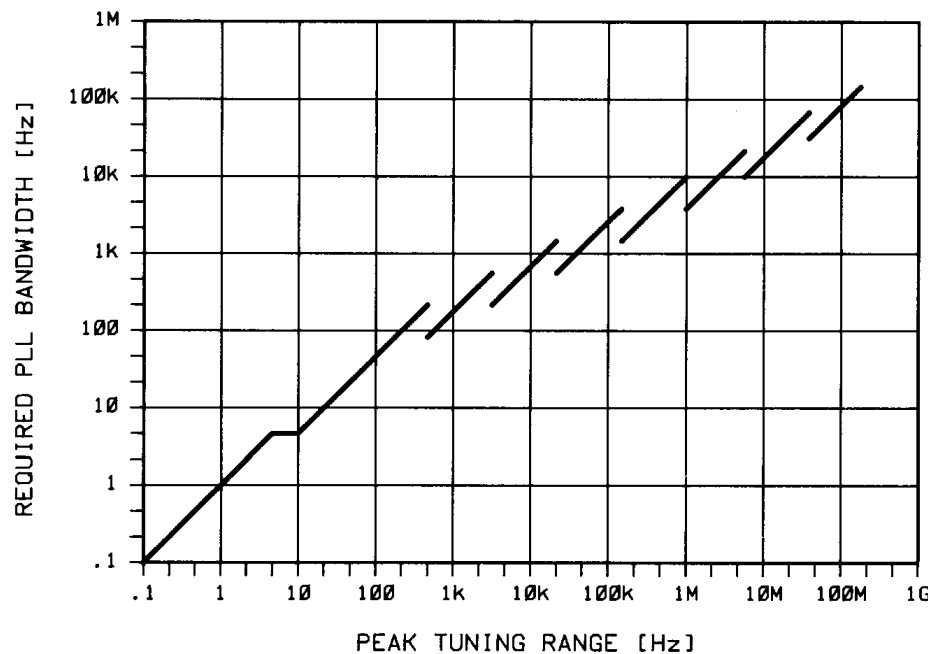

Figure 6-8 Peak Tuning Range (PTR) Required by Injection Locking.
NOTE: The PTR for the measurement is set by the tuning characteristics of the VCO source you are using. Figure 6-8 shows that increasing the PLL bandwidth can require a substantially larger increase in the PTR. For information on the limitations of increasing the PTR, refer to Changing the PTR in this section.
- 3 Locate the required PLL bandwidth in Figure 6-8 to determine the PTR required for the measurement. (For details on increasing the PTR, refer to Changing the PTR in this section.